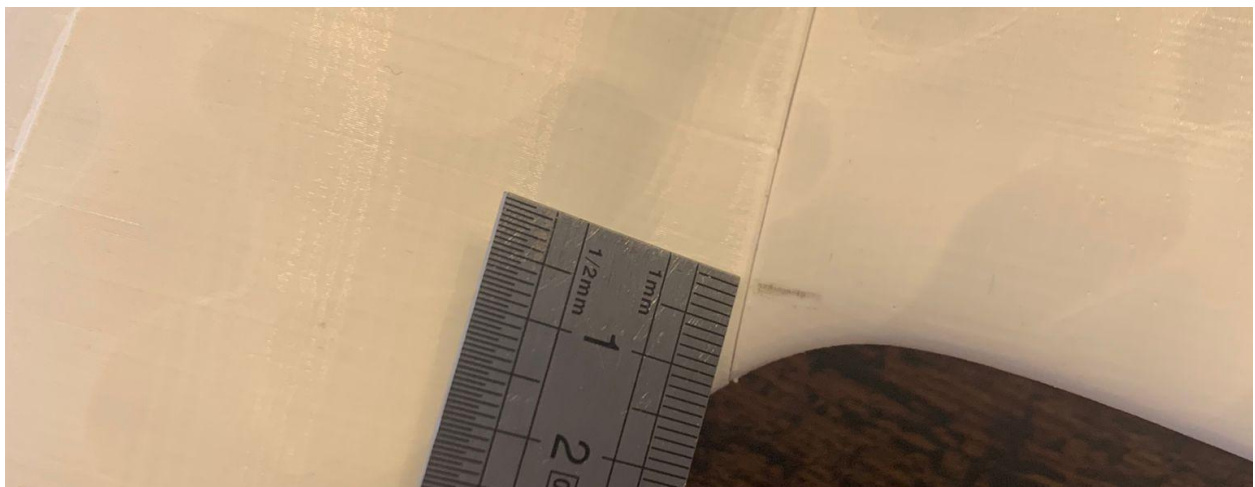

Figure 26: CG placement
To find the **center of gravity (CG)**, refer to Figure 26 and support the plane at the indicated balance points, located **10 mm from the leading edge** of the wing. Adjust the battery or internal components until the aircraft balances level or with a slight nose down attitude.